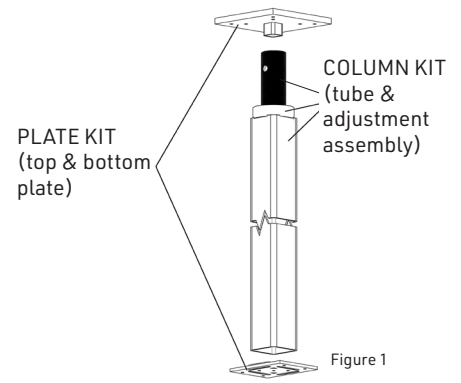

Figure 1
* Plates are shown upside down for illustration purposes. Refer to figure 1 for plate position when installed.
*Plates are shown upside down for illustration purposes. Refer to figure 1 for plate position when installed.